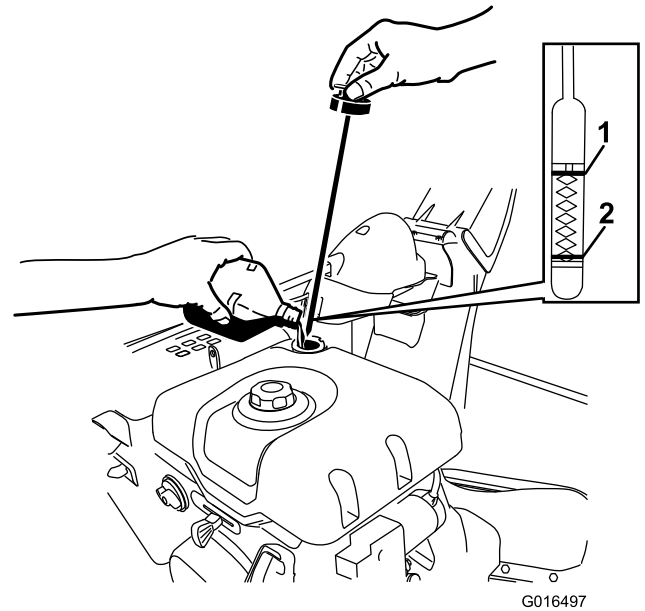

Figure 20
1. Remove the dipstick by rotating the cap counterclockwise and slowly pour oil into the oil fill tube to raise the oil level to the Full mark on the dipstick. **Do not overfill.** (Figure 20).